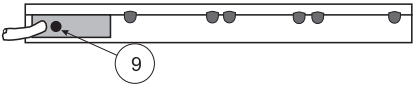

Figure 4 - Circuit Breaker (rear view)
- Each PowerManager is equipped with a 15 Amp **circuit breaker** to protect against electrical power overload. See Figure 4 for the location of the circuit breaker.